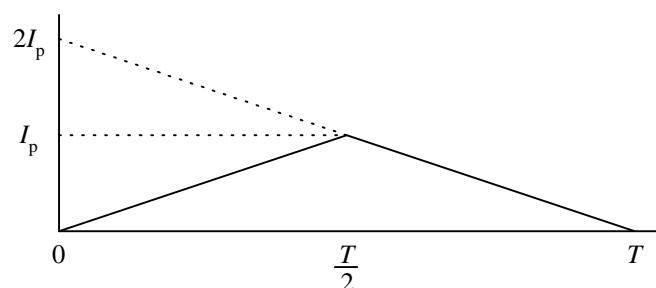

Figure 3-34 Waveform for Problem 3-2
- 3-2** Determine the equation for the waveform in Figure 3-34. This is a symmetric triangle wave. The equation has two parts. Each segment is of the form $y = mx + b$. The second segment has a negative slope and a y intercept of $2I_p$.
- 3-4** a. Calculate the equation for the average value of the triangle wave from Figure 3-34.
- 3-6** a. Calculate the equation for the rms value of the triangle wave from Figure 3-34.
- a. Calculate the equation for the power delivered by a current in the shape of the triangle wave from Figure 3-34, and a voltage that is a rectangle, with a peak voltage of V_p and a 50% duty cycle.